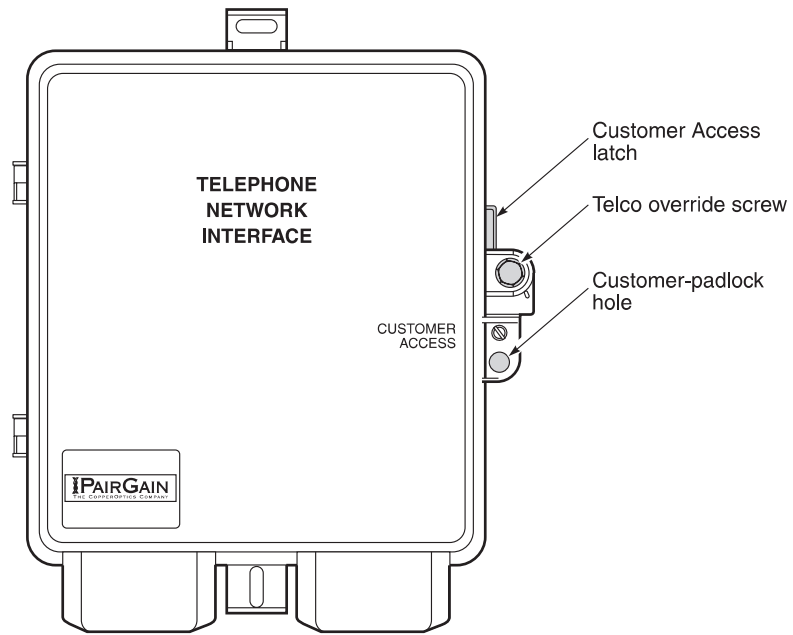

Figure 2. Securing the Customer Access Door
- 1.9 Security.** Subscribers can secure the Customer Access door by placing a padlock through the customer-padlock hole that is drilled into the Customer Access door hasp (Figure 2). For installations where more than one subscriber is serviced out of a single PRL-770 unit, you should plug the customer-padlock hole in the Customer Access door hasp with a 3/8" diameter hole plug.